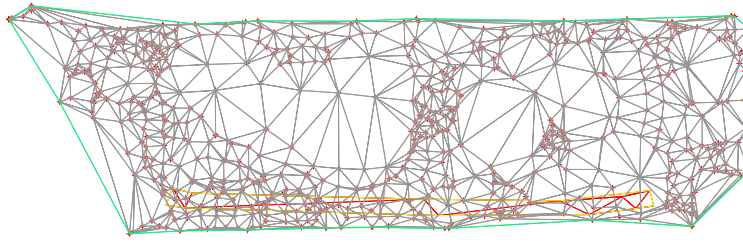

Figure 3-69 The EG surface created after adding the point group
5. Select the **_All Points** group and choose the **OK** button; the point group is added as the definition to the surface, as shown in Figure 3-69.